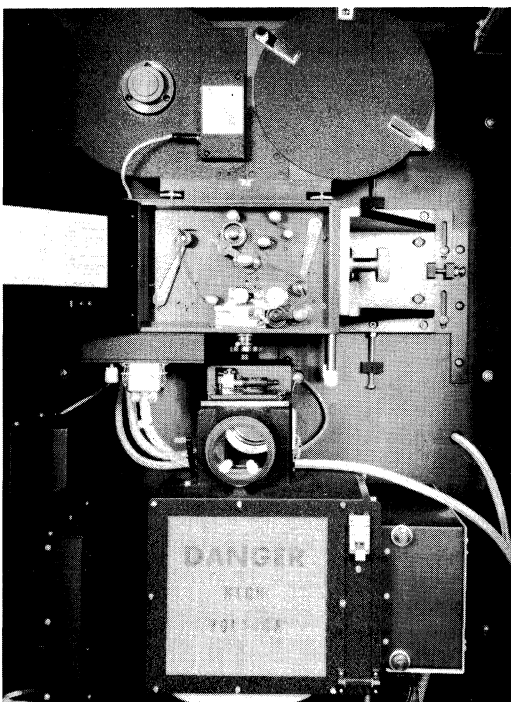

*Figure 8. Standard 35MM Recording Camera*
**STANDARD 35MM CAMERA:** This camera (Figure 8) uses 35mm perforated film. The 4-inch-square image displayed on the tube is recorded as a 17.5mm square on the film with 16 frames per foot. This film can be used in aperture cards, 35mm roll film viewers, and the Xerox Copyflo machines. The image is compatible with standard 35mm movie projectors or it can be reduced, using standard Cine equipment, to 16mm for use in the more commonly available 16mm movie projectors. The 35mm camera operates at speeds up to 10 frames per second.